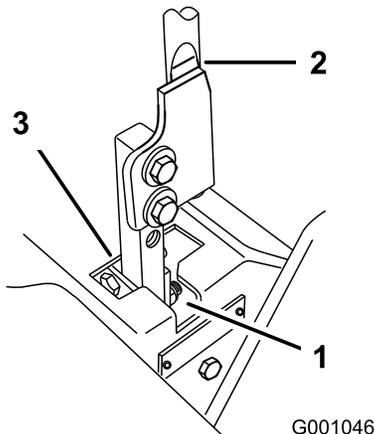

Figure 75
5. Move the lever to the neutral position but not locked (Figure 75).
6. Pull the lever back until the clevis pin (on arm below pivot shaft) contacts the end of the slot (just beginning to put pressure on the spring) as shown in Figure 75.
7. Check where the control lever is relative to notch in console (Figure 75).